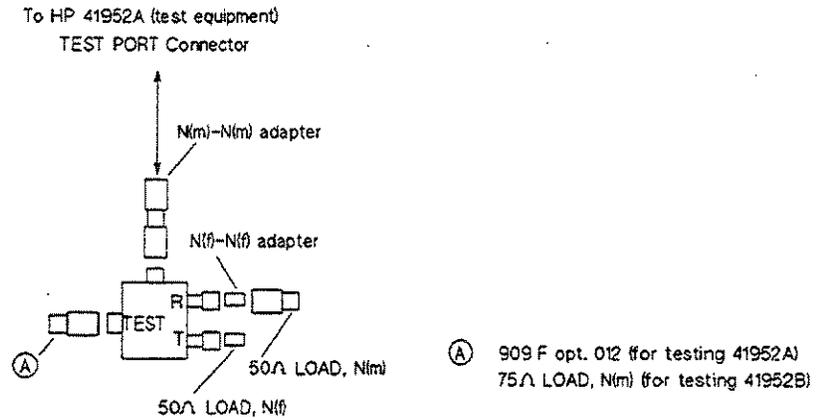

Figure 4-6. RF INPUT connector Port Match Test Setup
- Connect the HP 85032B's N(f) LOAD standard to the REFLECTED (T) connector of the HP 41952A/B (under test).
- Connect the HP 85032B's N(m) LOAD standard to the INCIDENT (R) connector of the HP 41952A/B (under test) using the N(f)-N(f) Adapter, as shown in Figure 4-6.